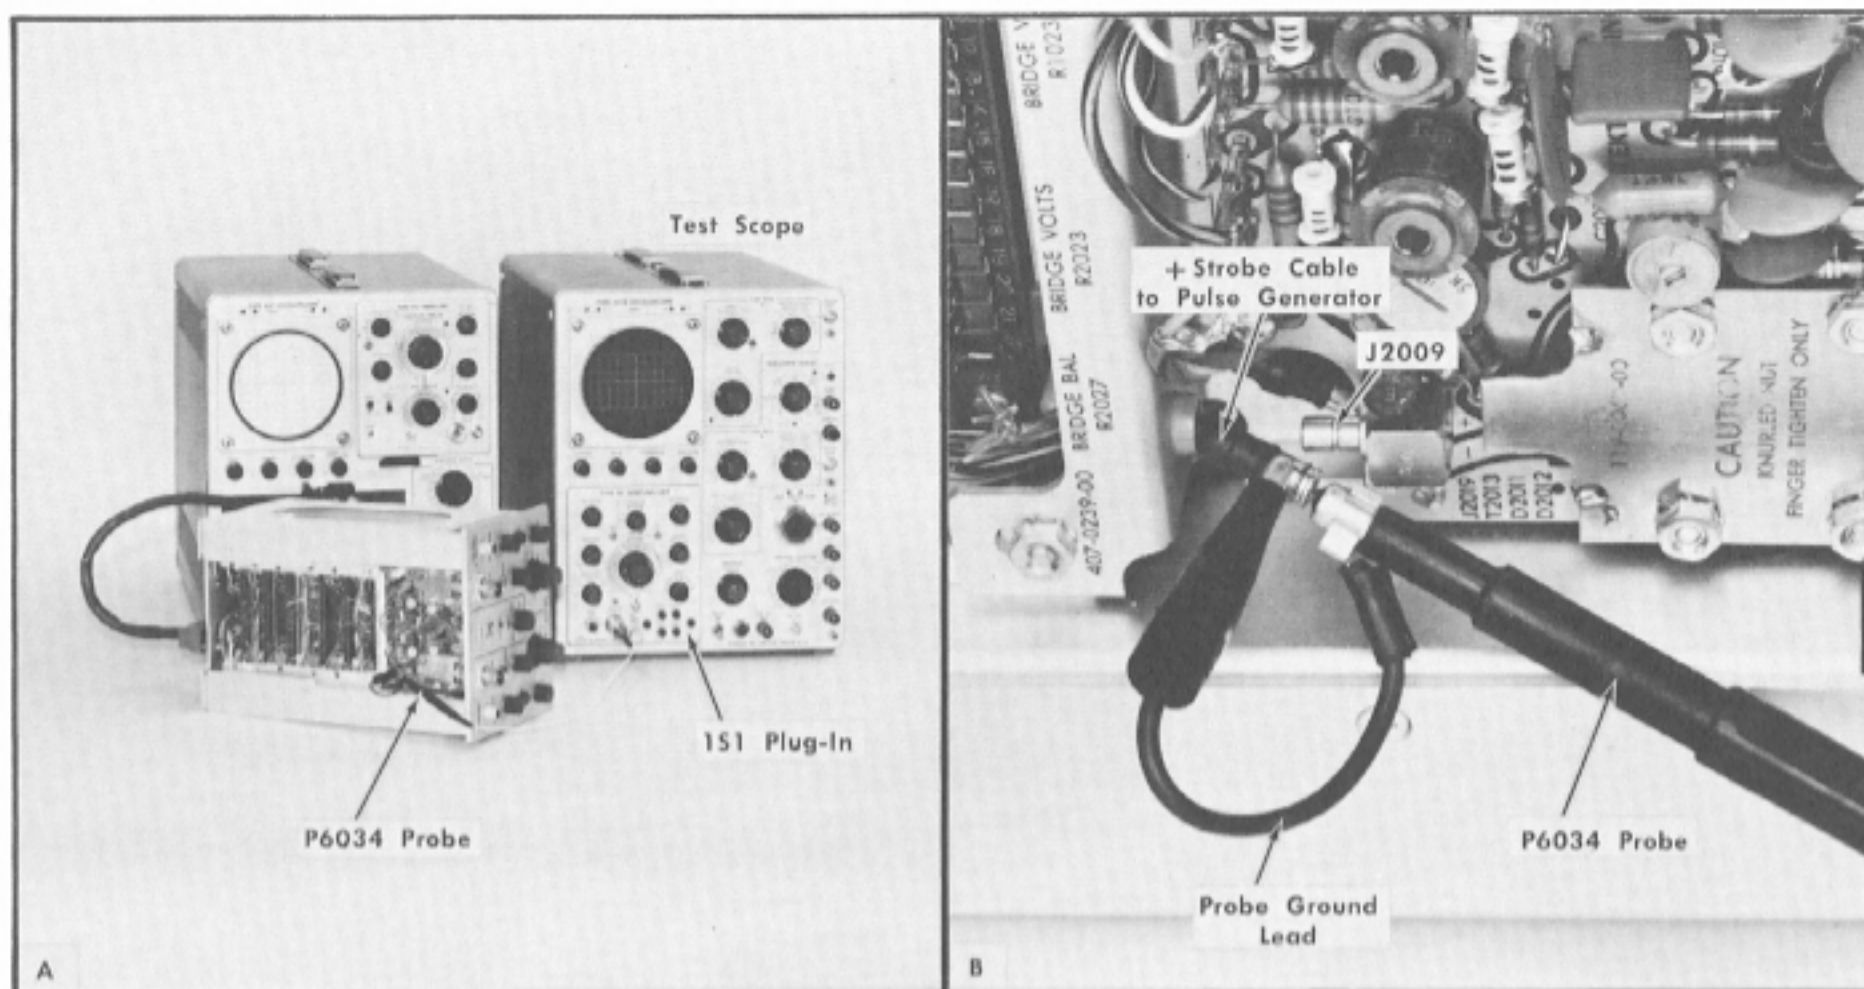

Fig. 6-6. Test equipment setup for step 1.
- a. Test equipment setup is shown in Fig. 6-6(A).
- e. Connect the 10× probe tip to the Subminax connector on the cable removed from J2009. Maintain ground continuity with the probe ground lead as shown in Fig. 6-6(B).